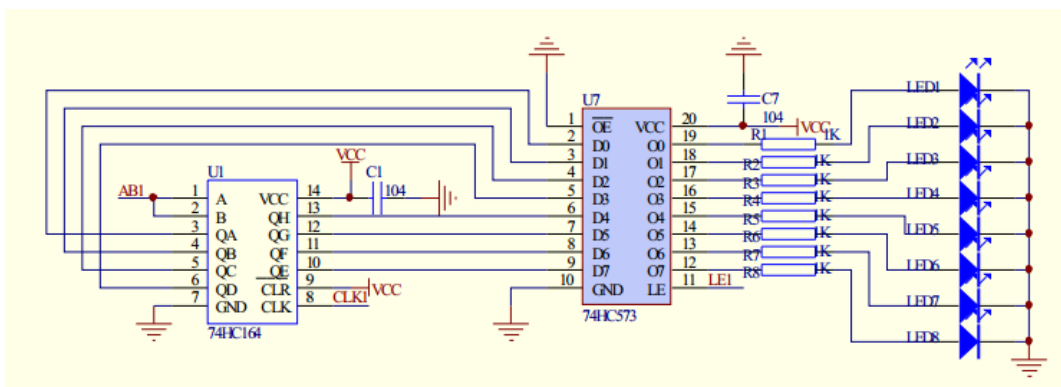

Figure 1
3. This test circuit is controlled by a microcontroller to work with 12 groups of 8-bit LEDs. Each group is composed of one 74HC573 and 74HC164, a group can control 8 LEDs, a total of 12 groups, Figure 1 is a group of control schematic, all the LEDs can light up and flash if it is soldered properly.
4 Each LED group in Figure 1 is controlled by the three signals AB1, CLK1 and LE1 and these signals are controlled by microcontroller. If there are LEDs from LED1-LED8 are not flashing, it means that the two IC pins, R1-R8, LED1-LED8 have incorrect soldering or false soldering. If the whole group does not flash, it means that AB1, CLK1, LE1 three signals do not work, first check whether the two ICs are soldered properly and then check the soldering of the 100 ohm resistor of the three signals circuit and the pins of the microcontroller that corresponds to the three signals.